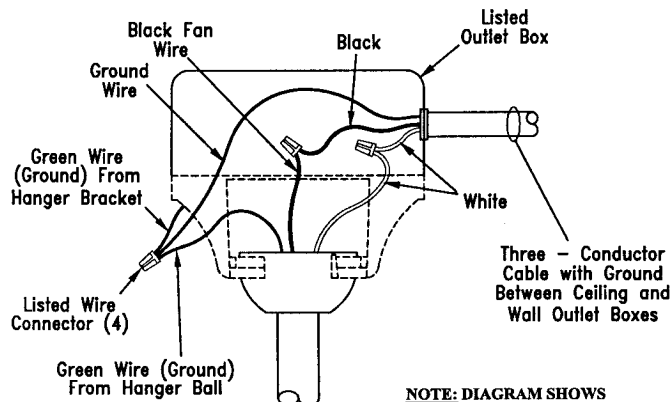

Figure 5
2. Securely connect the white fan motor wire to the white supply (neutral) wire using wire connector supplied (Figure 5). Securely connect the black fan motor wire to the black supply wire using wire connector supplied (Figure 5). After connections have been made, turn leads upward and carefully push leads into the outlet box, with the white and green leads on one side of the outlet box and the black lead on the other side of the outlet box.